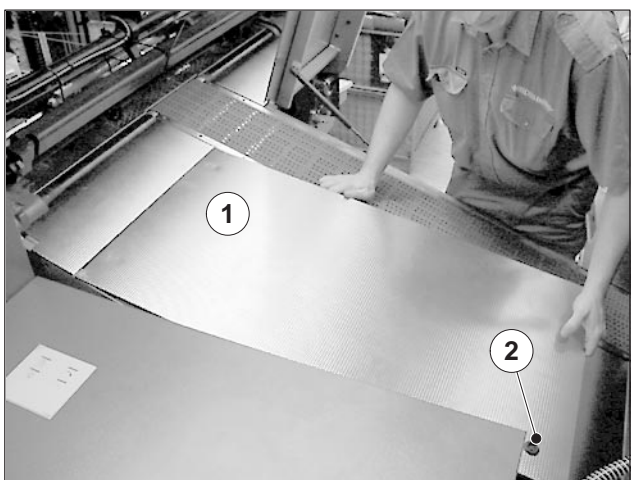

Fig. 104
10. Place the sheet guide plate (Fig. 104/1) onto the feeder frame on D.S.
11. Using the matching key, close the sheet guide plate locking device (Fig. 104/2).